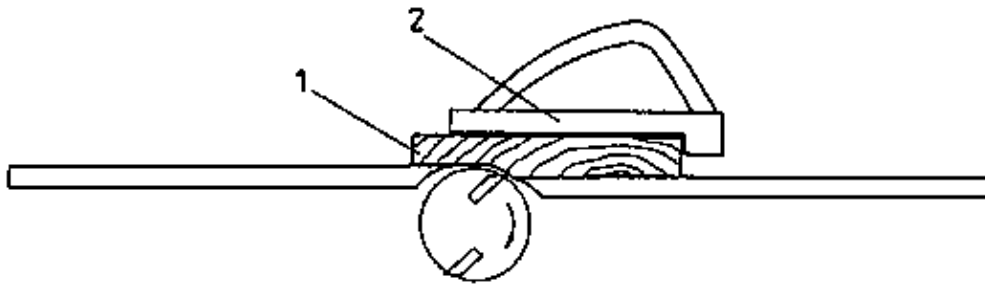

Figure 5 – Milling with feeding device
- make use of the feeding device when machining short workpieces (see Figure 5)